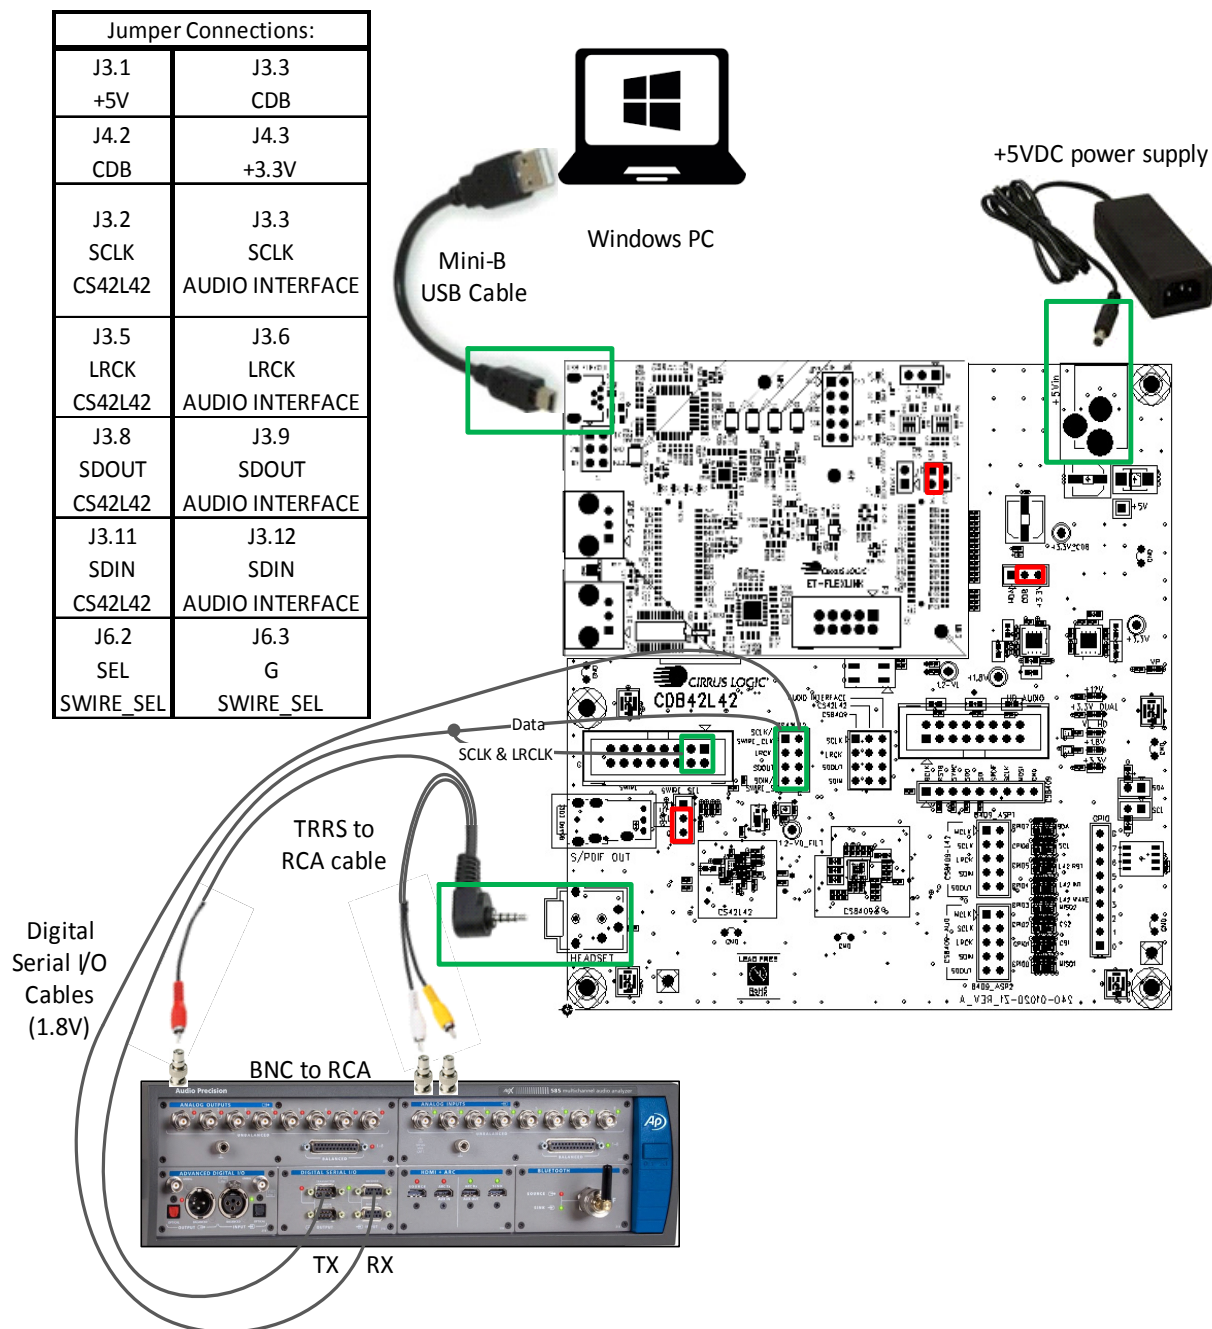

Figure 2-2. Jumper Settings (FlexGUI Mode with External I²S)
2. Set jumpers on CDB42L42 J3, J4, and J6 and on ET-FLEXLINK J3, as shown by the red indicators in Fig. 2-2. See Table 4-1.
3. Connect Cabling to the CDB42L42 as shown by the green indicators in Fig. 2-2.